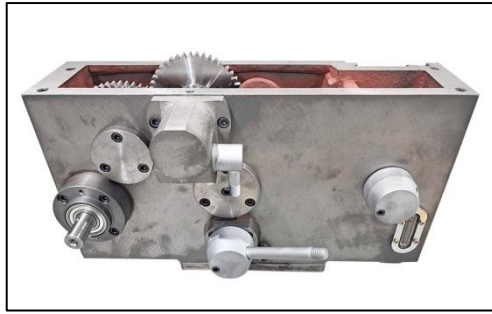

Figure 12
5. Clear oil return hole using air pressure. **(Figure 12)**